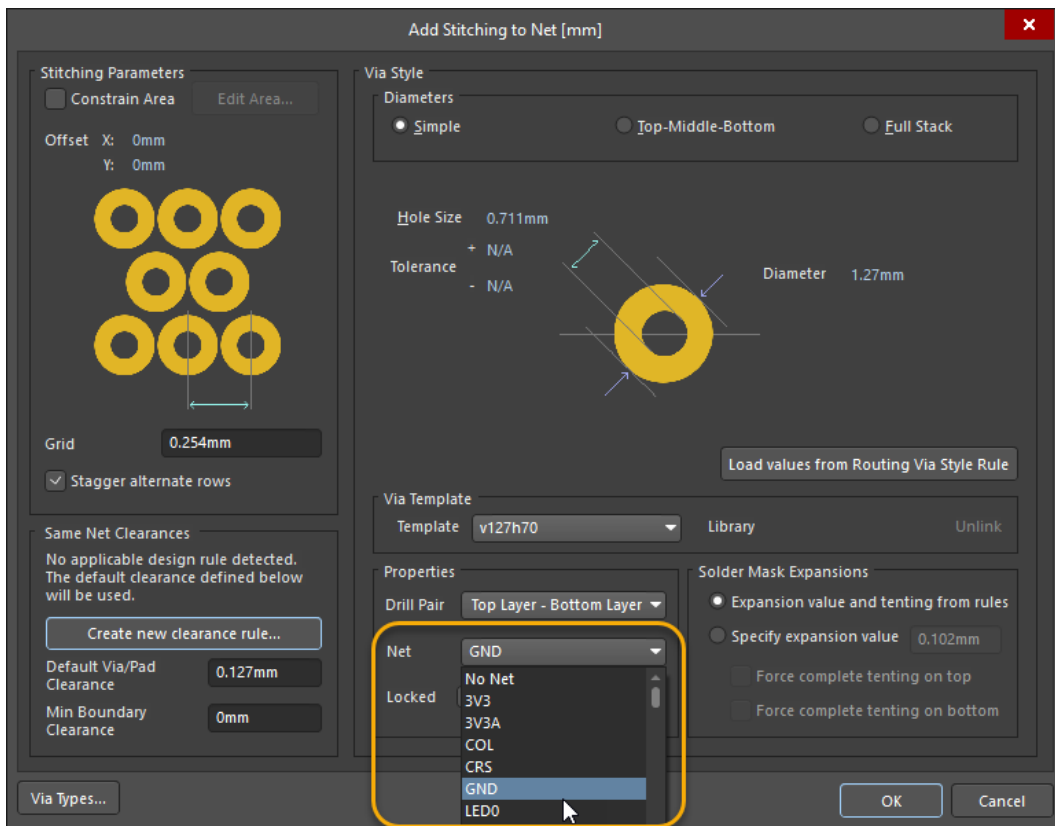

Figure 1. Add Stitching to Net Menu
5. In the *Add Stitching to Net* dialog, select the *Net* dropdown and then select **GND** as shown in Figure 1 below.